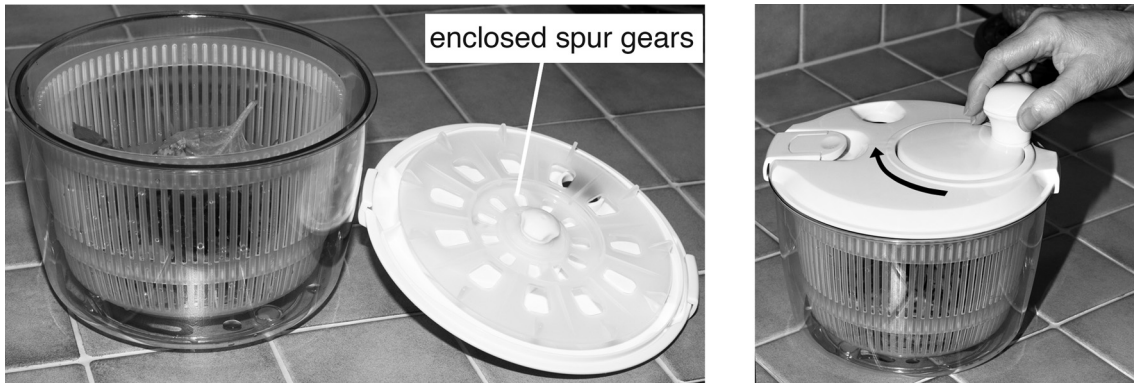

Fig. 2
- 5 Fig. 2 shows a salad spinner which uses a gear system to spin a basket to remove water from washed salad.